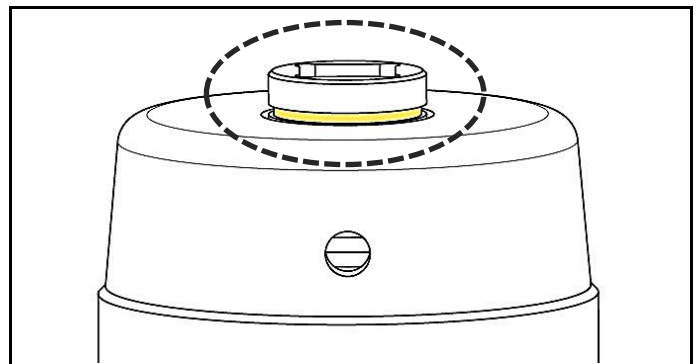

Fig. 2.1 Puller bar indicator groove
**NOTICE** There is a yellow coloured indicator or groove marked around the top of the puller bar which indicates that the tensioner has reached its maximum stroke. If this line is observed, stop the pump and do not continue to pressurise the tool(s). It will be necessary to tighten the nut(s) down, and retract the tool(s) before continuing. (Fig. 2.1)